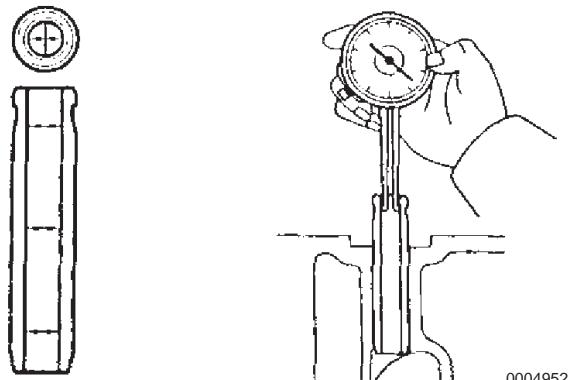

Figure 5-27
2. Measure the inside diameter of valve guides using a caliper gauge (**Figure 5-27**).